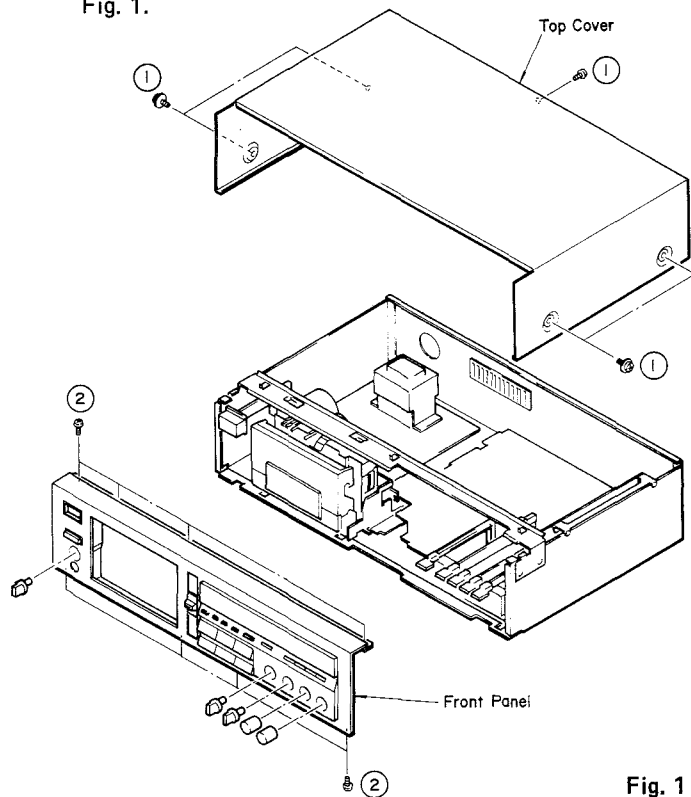

Fig. 1
Remove 5 screws (1) in Fig. 1.
- Pull off 5 knobs in Fig. 1.
- Remove 8 screws (2) then pull off front panel in Fig. 1.